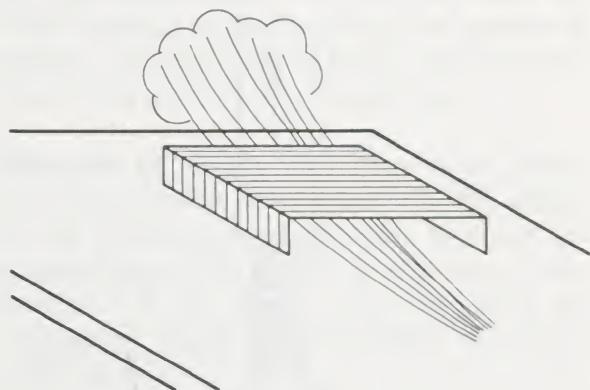

Figure 29.
3. Fold a 3 in  $\times$  5 in index card as shown in Figure 29. Place the card on the edge of a table and blow through the "tunnel" formed by the card and the table top. What happens? Can you blow the card off the table in this way?